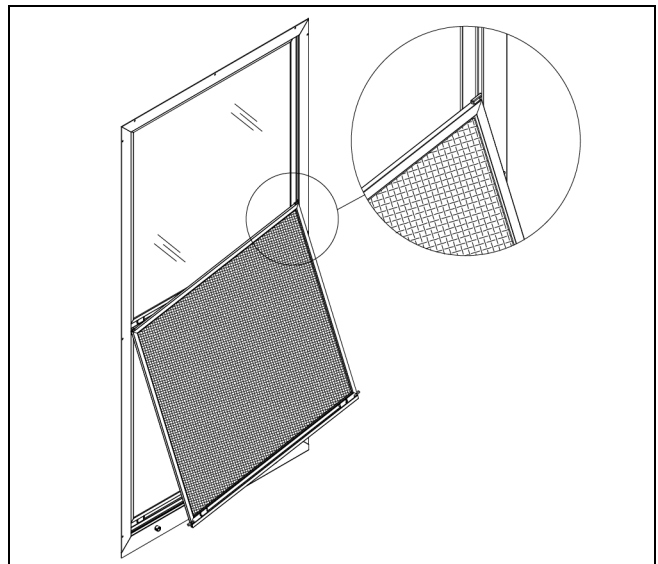

Figure 4
2. To remove the screen, move both finger pulls toward the center. While holding finger pulls, lift screen slightly and pull bottom toward you. Tilt screen to allow pins to clear the frame and remove as shown in. Glass panels can be removed in the same manner. See Figure 4.